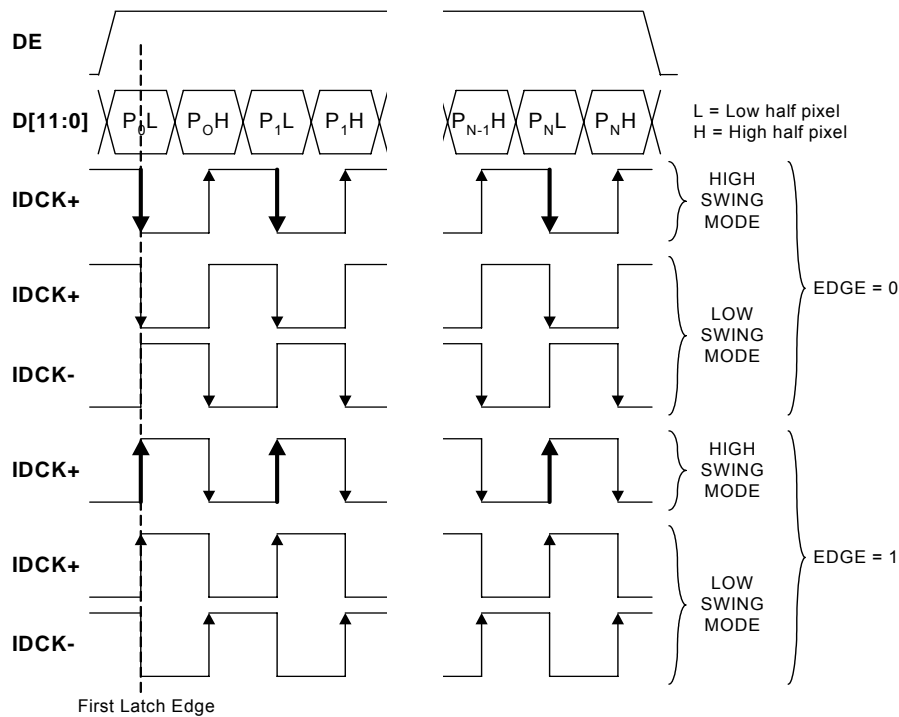

Figure 11. Logical Interface Options for 12-bit Mode
1. In Figure 11, clock edges represented by arrows signify the latching edge. The dark arrows indicate the primary latch edge. The lower half of the pixel (L) is latched by the primary clock edge.